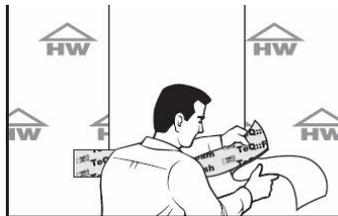

Figure 2
2.1.1 Apply TeQ::Flash™ to sill condition by removing the release backing and placing the top edge level to the rough opening (Figure 2). Sill flashing should extend past rough opening on each side equal to the approximate width of TeQ::Flash™ (i.e. 9" flashing should extend beyond jambs on each side by 9").